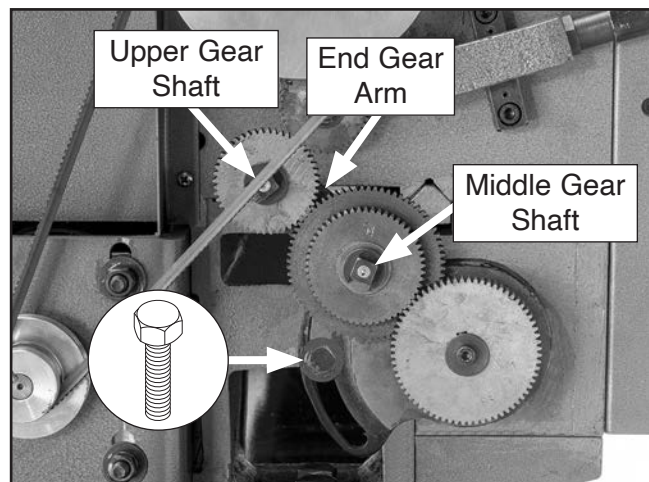

Figure 89. Location of end gear arm and hex bolt.
5. While holding end gear arm, loosen hex bolt and slowly let arm swing down (see **Figure 89**).
6. Turn square-headed upper and middle shafts shown in **Figure 89** counterclockwise to release upper and middle gear positions.